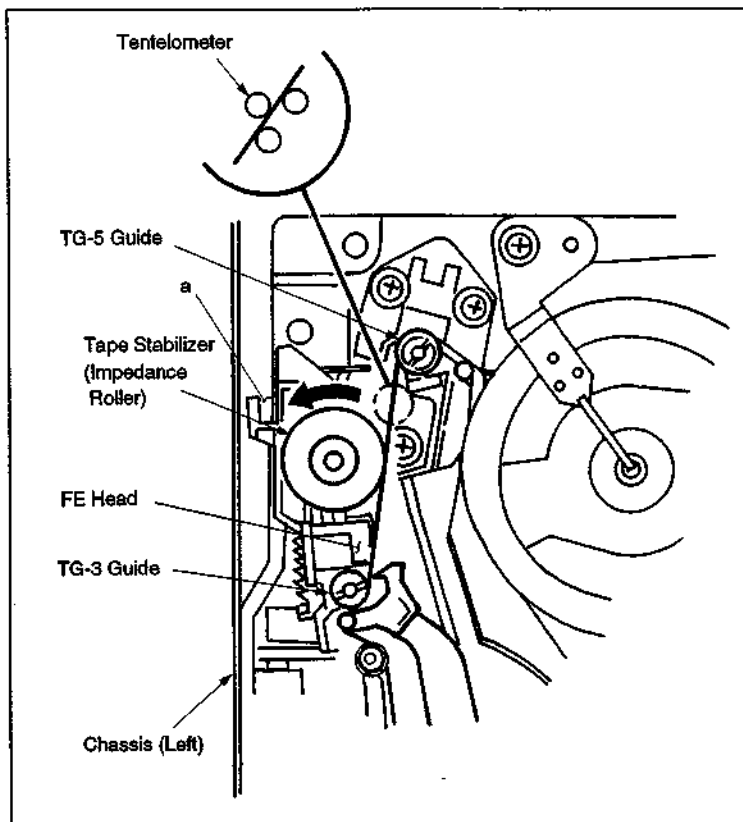

Fig. 1
- (1) To prevent the tape from touching the tentelometer, rotate the tape stabilizer in the direction of the arrow until it strikes the chassis (left), then insert the bamboo skewer, or the like, at point "a" shown in the figure, and fix it in place. (Fig.1)
- (2) Insert a cassette tape in the VTR, then put the VTR into the PLAY mode.
- (3) Install the tentelometer between the TG-3 guide and the TG-5 guide. (Fig.1)